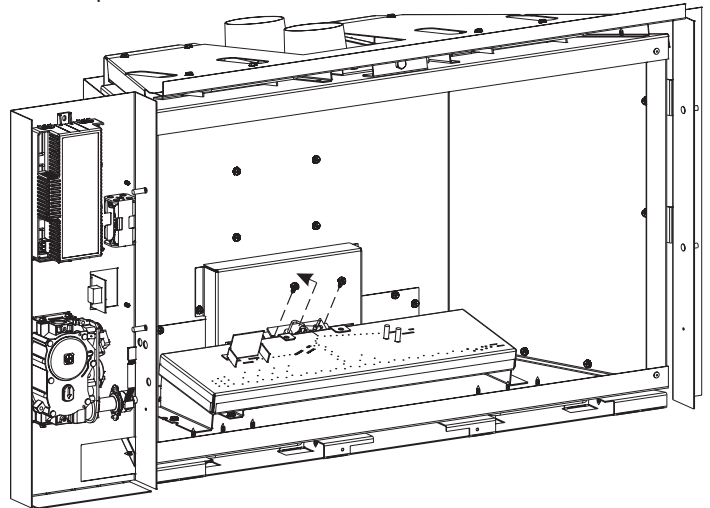

Figure 38
7. Remove the two screws securing the pilot to the burner. **See Figure 38.**
8. Pull the pilot toward the back of the unit just enough to get it safely out of the way. **See Figure 38. DO NOT** disconnect the pilot.